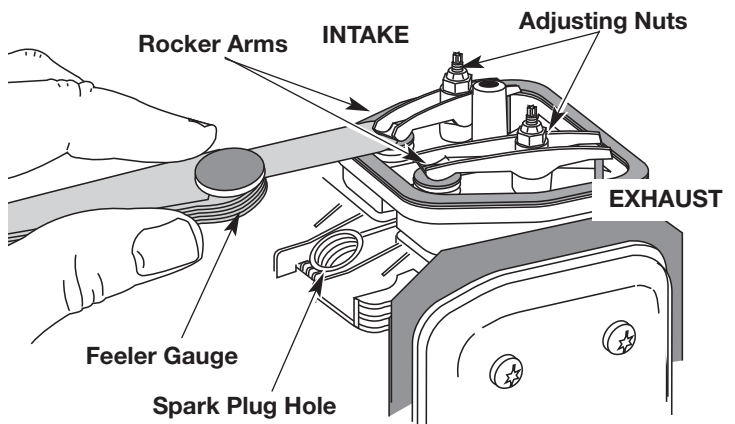

Fig. 29
- The piston is at the top of its travel while looking in the spark plug hole (Fig. 29).
7. Slide the feeler gauge between the rocker arm and the valve return spring. Measure the clearance between the valve stem and rocker arm (Fig. 29). Measure both the intake and exhaust valves.
The recommended clearance for both intake and exhaust is .003 – .006 in. (.076 – 0.152 mm). Use a standard automotive .005 in. (0.127 mm) feeler gauge. The feeler gauge should slide between the rocker arm and valve stem with a slight amount of resistance, without binding. See Figures 29 and 30.